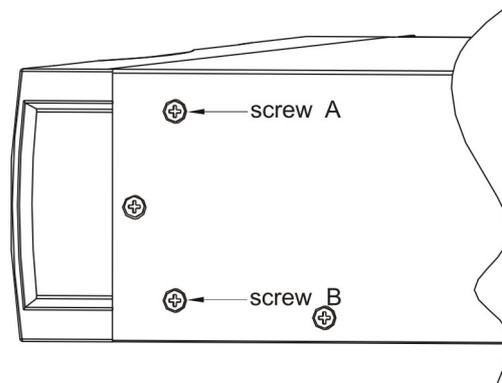

Fig 10 Cabinet installation bracket assembly
- ③ screw the two M4 screws described as Fig 10 ( symmetrical on both sides, a total of four).